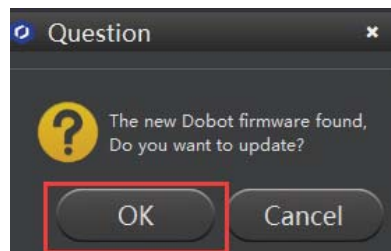

Figure 5.87 Confirm the firmware upgrade
2. Click **OK**, as shown in Figure 5.87.